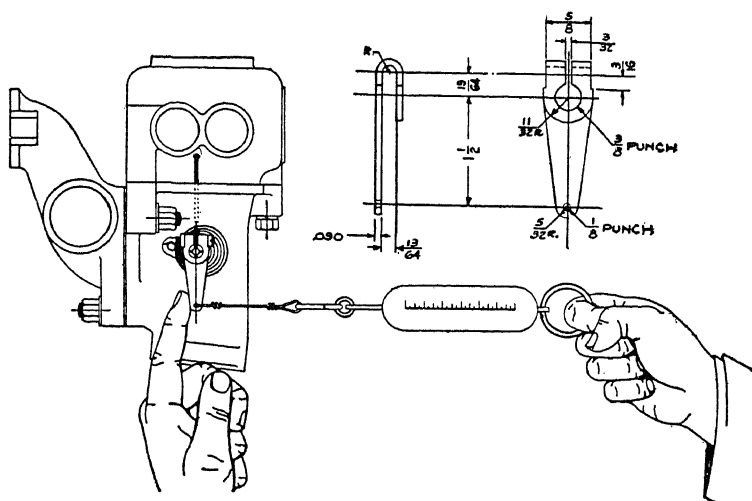

Fig. 15. Checking 1937 Buick Heat Control Thermostat
The thermostat is shown in Fig. 15. It controls the heat of the control valve automatically. Setting of the thermostat should be approximately  $\frac{1}{4}$  turn wind-up at normal room temperature, causing tension to be applied to the damper valve, holding it in the heat-on position and forcing the exhaust gases through the heat jacket. Heat conducted by the damper valve shaft of the thermostat causes it to unwind, reducing tension on the damper valve which allows the valve to be forced by the exhaust pressure toward the off position. The thermostat is also affected by the temperature of the air blast from the fan. Thus, we find that the heat control varies with outside air temperature, as well as directly from exhaust heat. The thermostat proper is made of two strips of metal of unequal expansion characteristics. These two metals being fastened together as one strip. When heat is applied to this bi-metal, it has the effect of causing the thermostat coil to wind or unwind. This serves to actuate the valve shaft and controls the amount of heat.
*Thermostat Tension.* If it is found desirable to check the tension on the thermostat, this operation should be carried out as indicated below. The first step is to have the whole manifold assembly at room temperature (approximately 70 degrees). Next, attach a spring balance to the lever and note the pull the instant the lever begins to move. This movement may be determined by holding the finger lightly against the back of the lever as shown in Fig. 15. In the case of the 40 Series Buick, the pull should be  $3\frac{1}{2}$  to  $4\frac{1}{2}$  ounces and in the cases of the 60-80-90 Series Buicks, the pull should be 8 to  $9\frac{1}{2}$  ounces. Before making this test, make certain that all moving heat controlled parts operate freely, but in no case should oil be used on these parts.